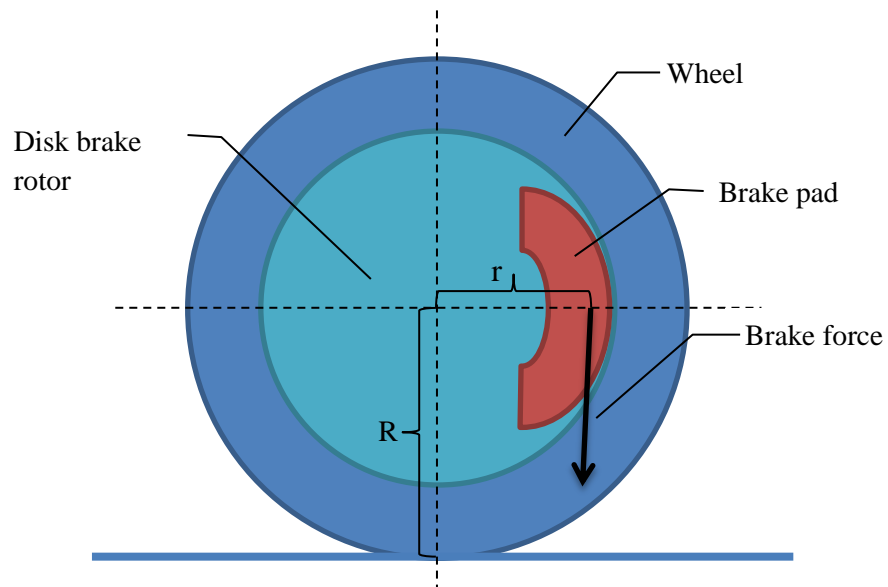

Figure 1.3. On braking force radius ratio (r/R) definition
radiusratio	Ratio (r/R) of the arm of braking force (r) to the wheel radius (R). It is applicable for disk brakes only. It is 1 for shoe brakes. See Figure 1.3 for details.